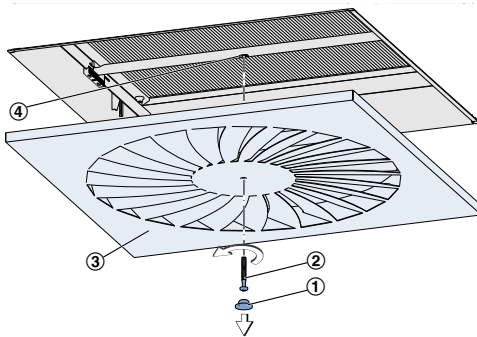

Fig. 8: Removing the diffuser face
1. ▶ Remove the decorative cap (Fig. 8/1) from the diffuser face (Fig. 8/3). **For diffuser face type PCD (PROCONDIF):** Remove the central honeycomb.
2. ▶ Remove the central fixing screw (Fig. 8/2) and then the diffuser face.